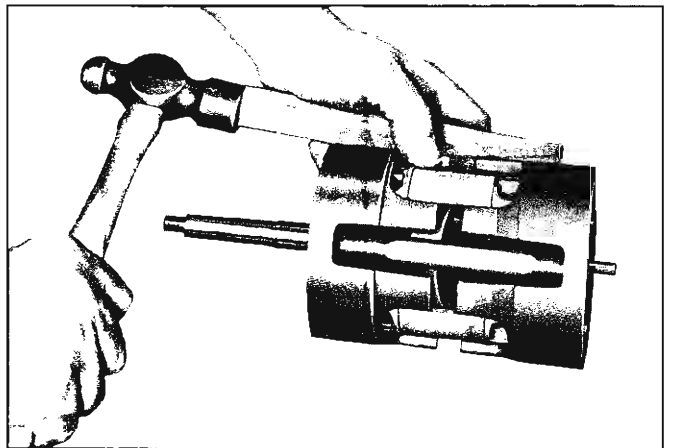

Fig. 41—Separating Cylinder Halves
3. Drive the cylinder halves apart and free from the dowel pins and discharge crossover tube using a fiber block and mallet (fig. 41). Discard the discharge crossover tube.